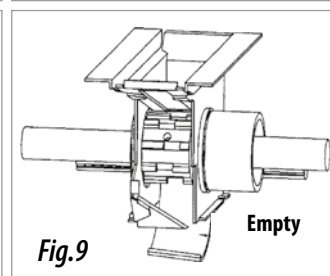

Fig.9
- Open the distributor system to empty the hopper (fig. 9).